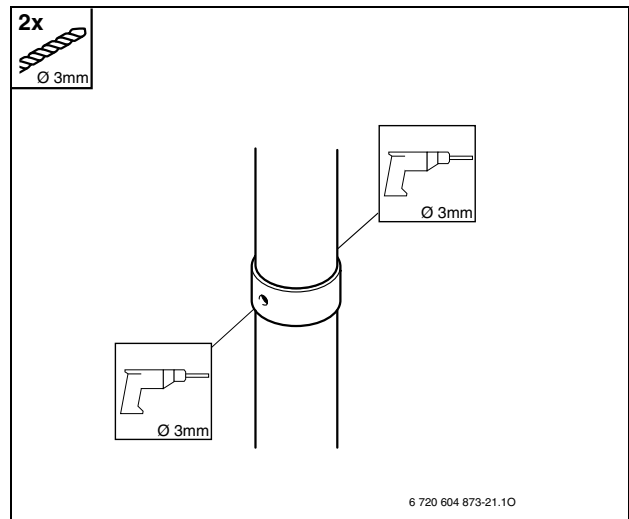

Fig. 3
- ▶ Drill two 3-mm diameter holes in the combustion air pipe. Maximum drilling depth 8 mm. It is essential that flue pipe is not damaged! (Fig. 3).